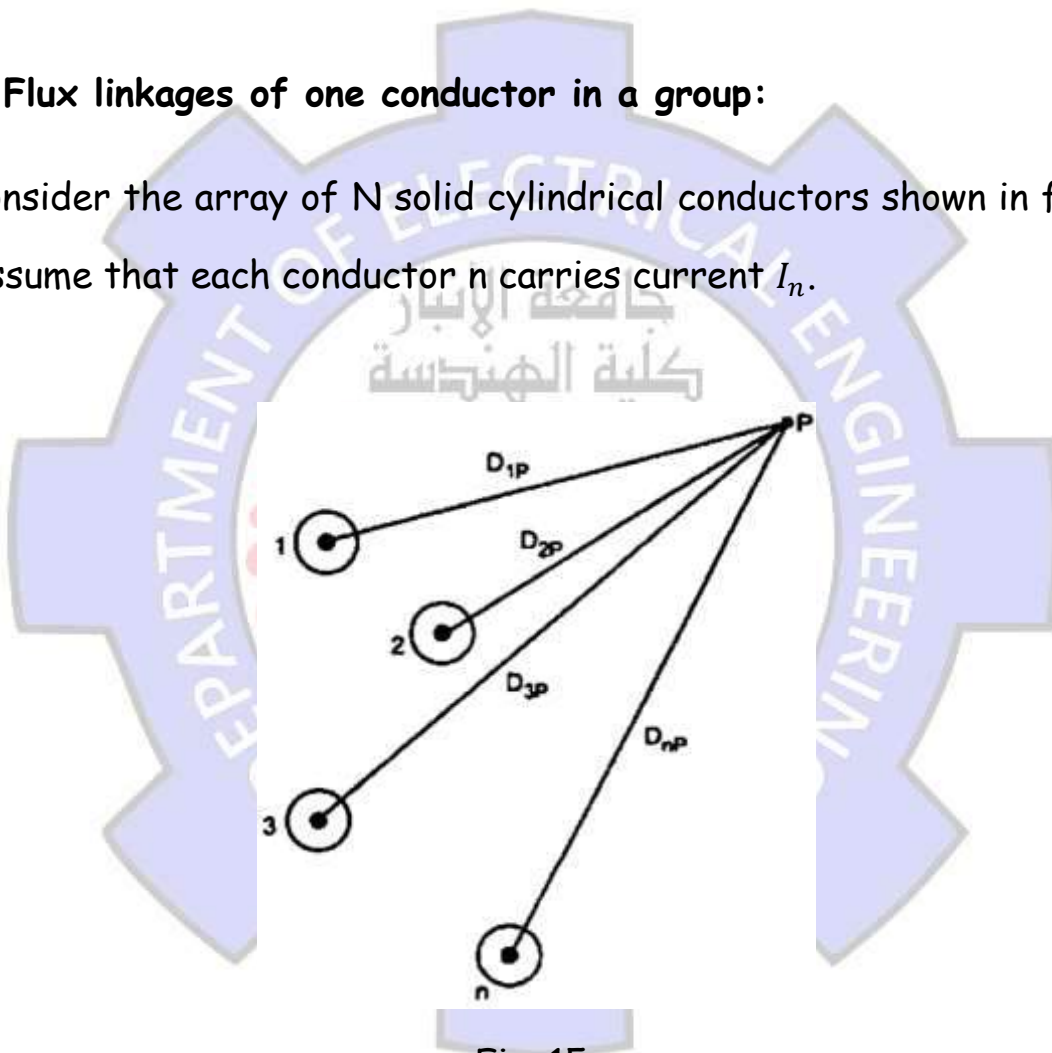

Fig. 15:
- Consider the array of N solid cylindrical conductors shown in figure 15. Assume that each conductor n carries current  $I_n$ .